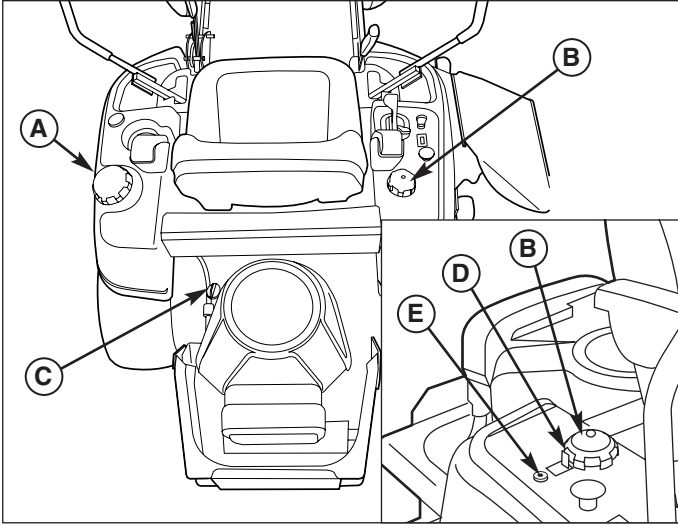

Figure 5. Check Fluid Levels
1. Use the dipstick (C, Figure 5) to check the engine oil level. If necessary add engine oil. Check engine manufacturer's owner's manual for oil recommendations.
2. Before removing the reservoir cap, make sure the area around the reservoir cap and fill neck of the reservoir is free of dust, dirt, or other debris. Loosen the locking capscrew (E, Figure 5) securing the locking tab (D), slide the lock tab back, and remove the cap (B).